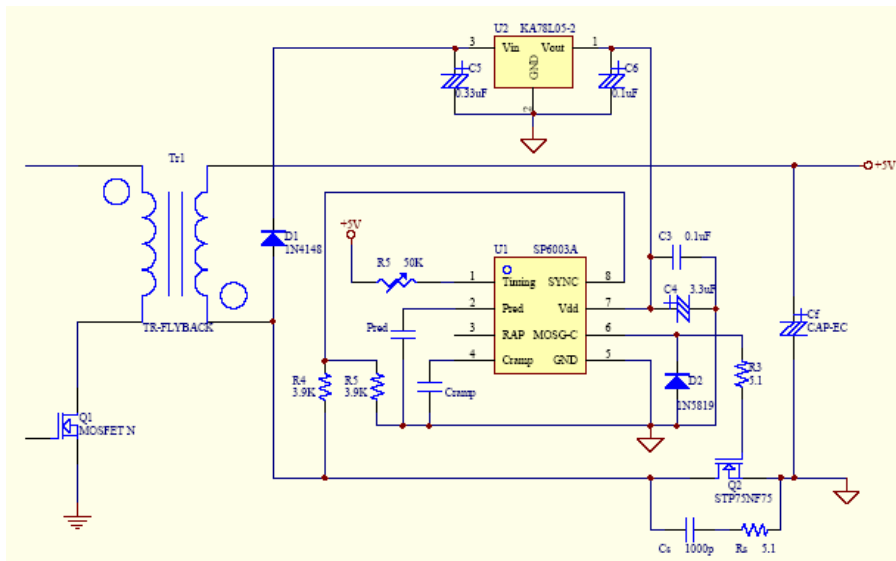

Fig. 3: Application Schematic
Channel 3 (2 μ s/DIV & 2V/DIV) indicates the SYNC voltage on the secondary side of a flyback transformer at 77 kHz, channel 2 (2 μ s/DIV & 5V/DIV) is the SP6003A output pin, MOSG-C, connects to the gate of MOSFET, and channel 4 (2 μ s/DIV & 10A/DIV) designates the input current (ID). Notice the timing gap between the falling edge of MOSG-C and the rising edge of SYNC is 3.5 μ s with no ramp capacitor connected. Figure 3 is the equivalent circuit for this particular application.
For applications with single set of transformer output, a way to deliver power to the IC can be derived from the isolated secondary voltage via a voltage regulator KA7805 or 78L05 as shown in figure 3. KA7805 is selected in this application. An input (0.33uF) and output (0.1uF) capacitor is also required for the voltage regulator. This is an acceptable approach for voltages from 6.5 volts minimum ripple valley voltage to 35 volts maximum peak voltage.